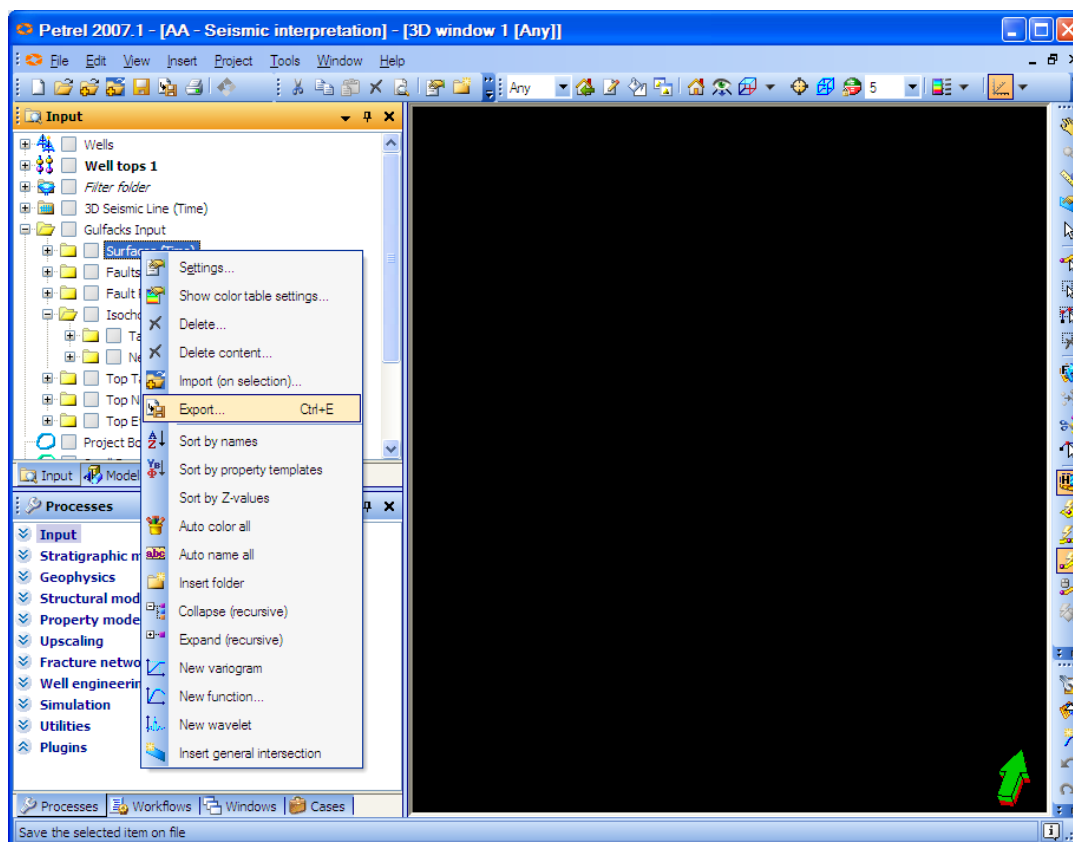

Fig.4.34: 3D window with **Export** drop-down menu
1. For example, Right click on **Surface (Time)** folder and choose **Export** option as shown in Fig.4.34.